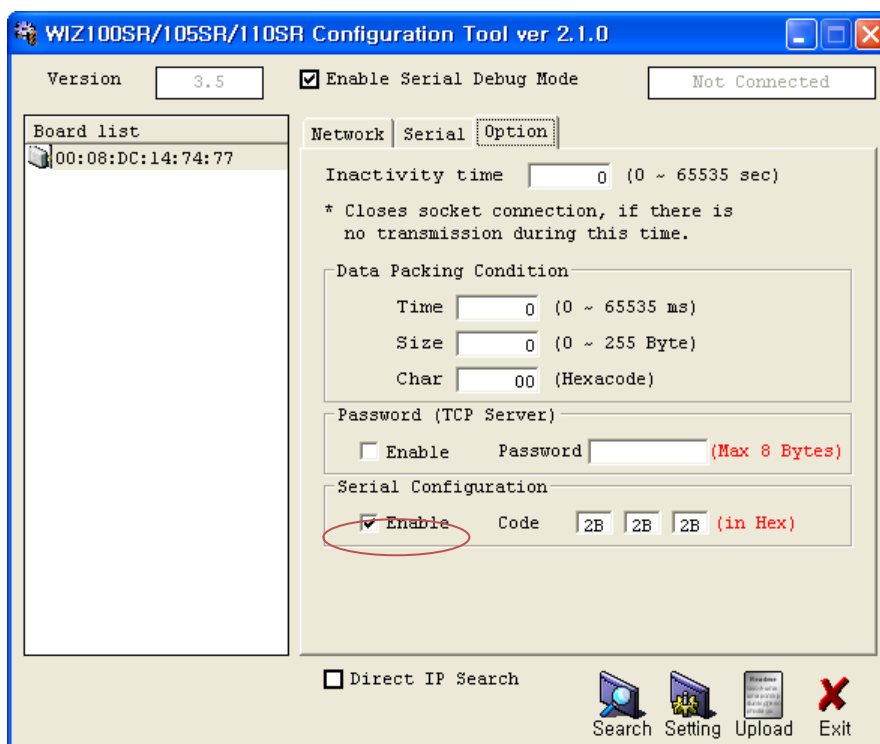

Figure 14. Serial Configuration Enable Setting
- ④ When uploading is complete, a message box with “Complete Uploading” will be displayed as shown in Figure 14.